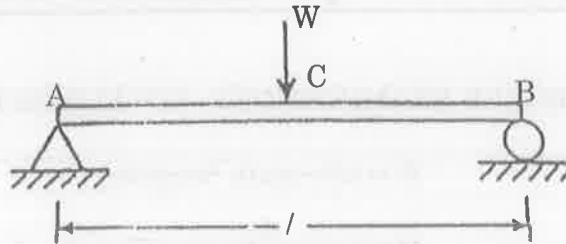

Fig. 1
11. (a) A beam AB of span length 'l' is simply supported at ends and carries a concentrated load W at the centre 'C' as shown in Figure 1. Determine the deflection at midspan by using the Rayleigh Ritz method and compare with the exact solution.